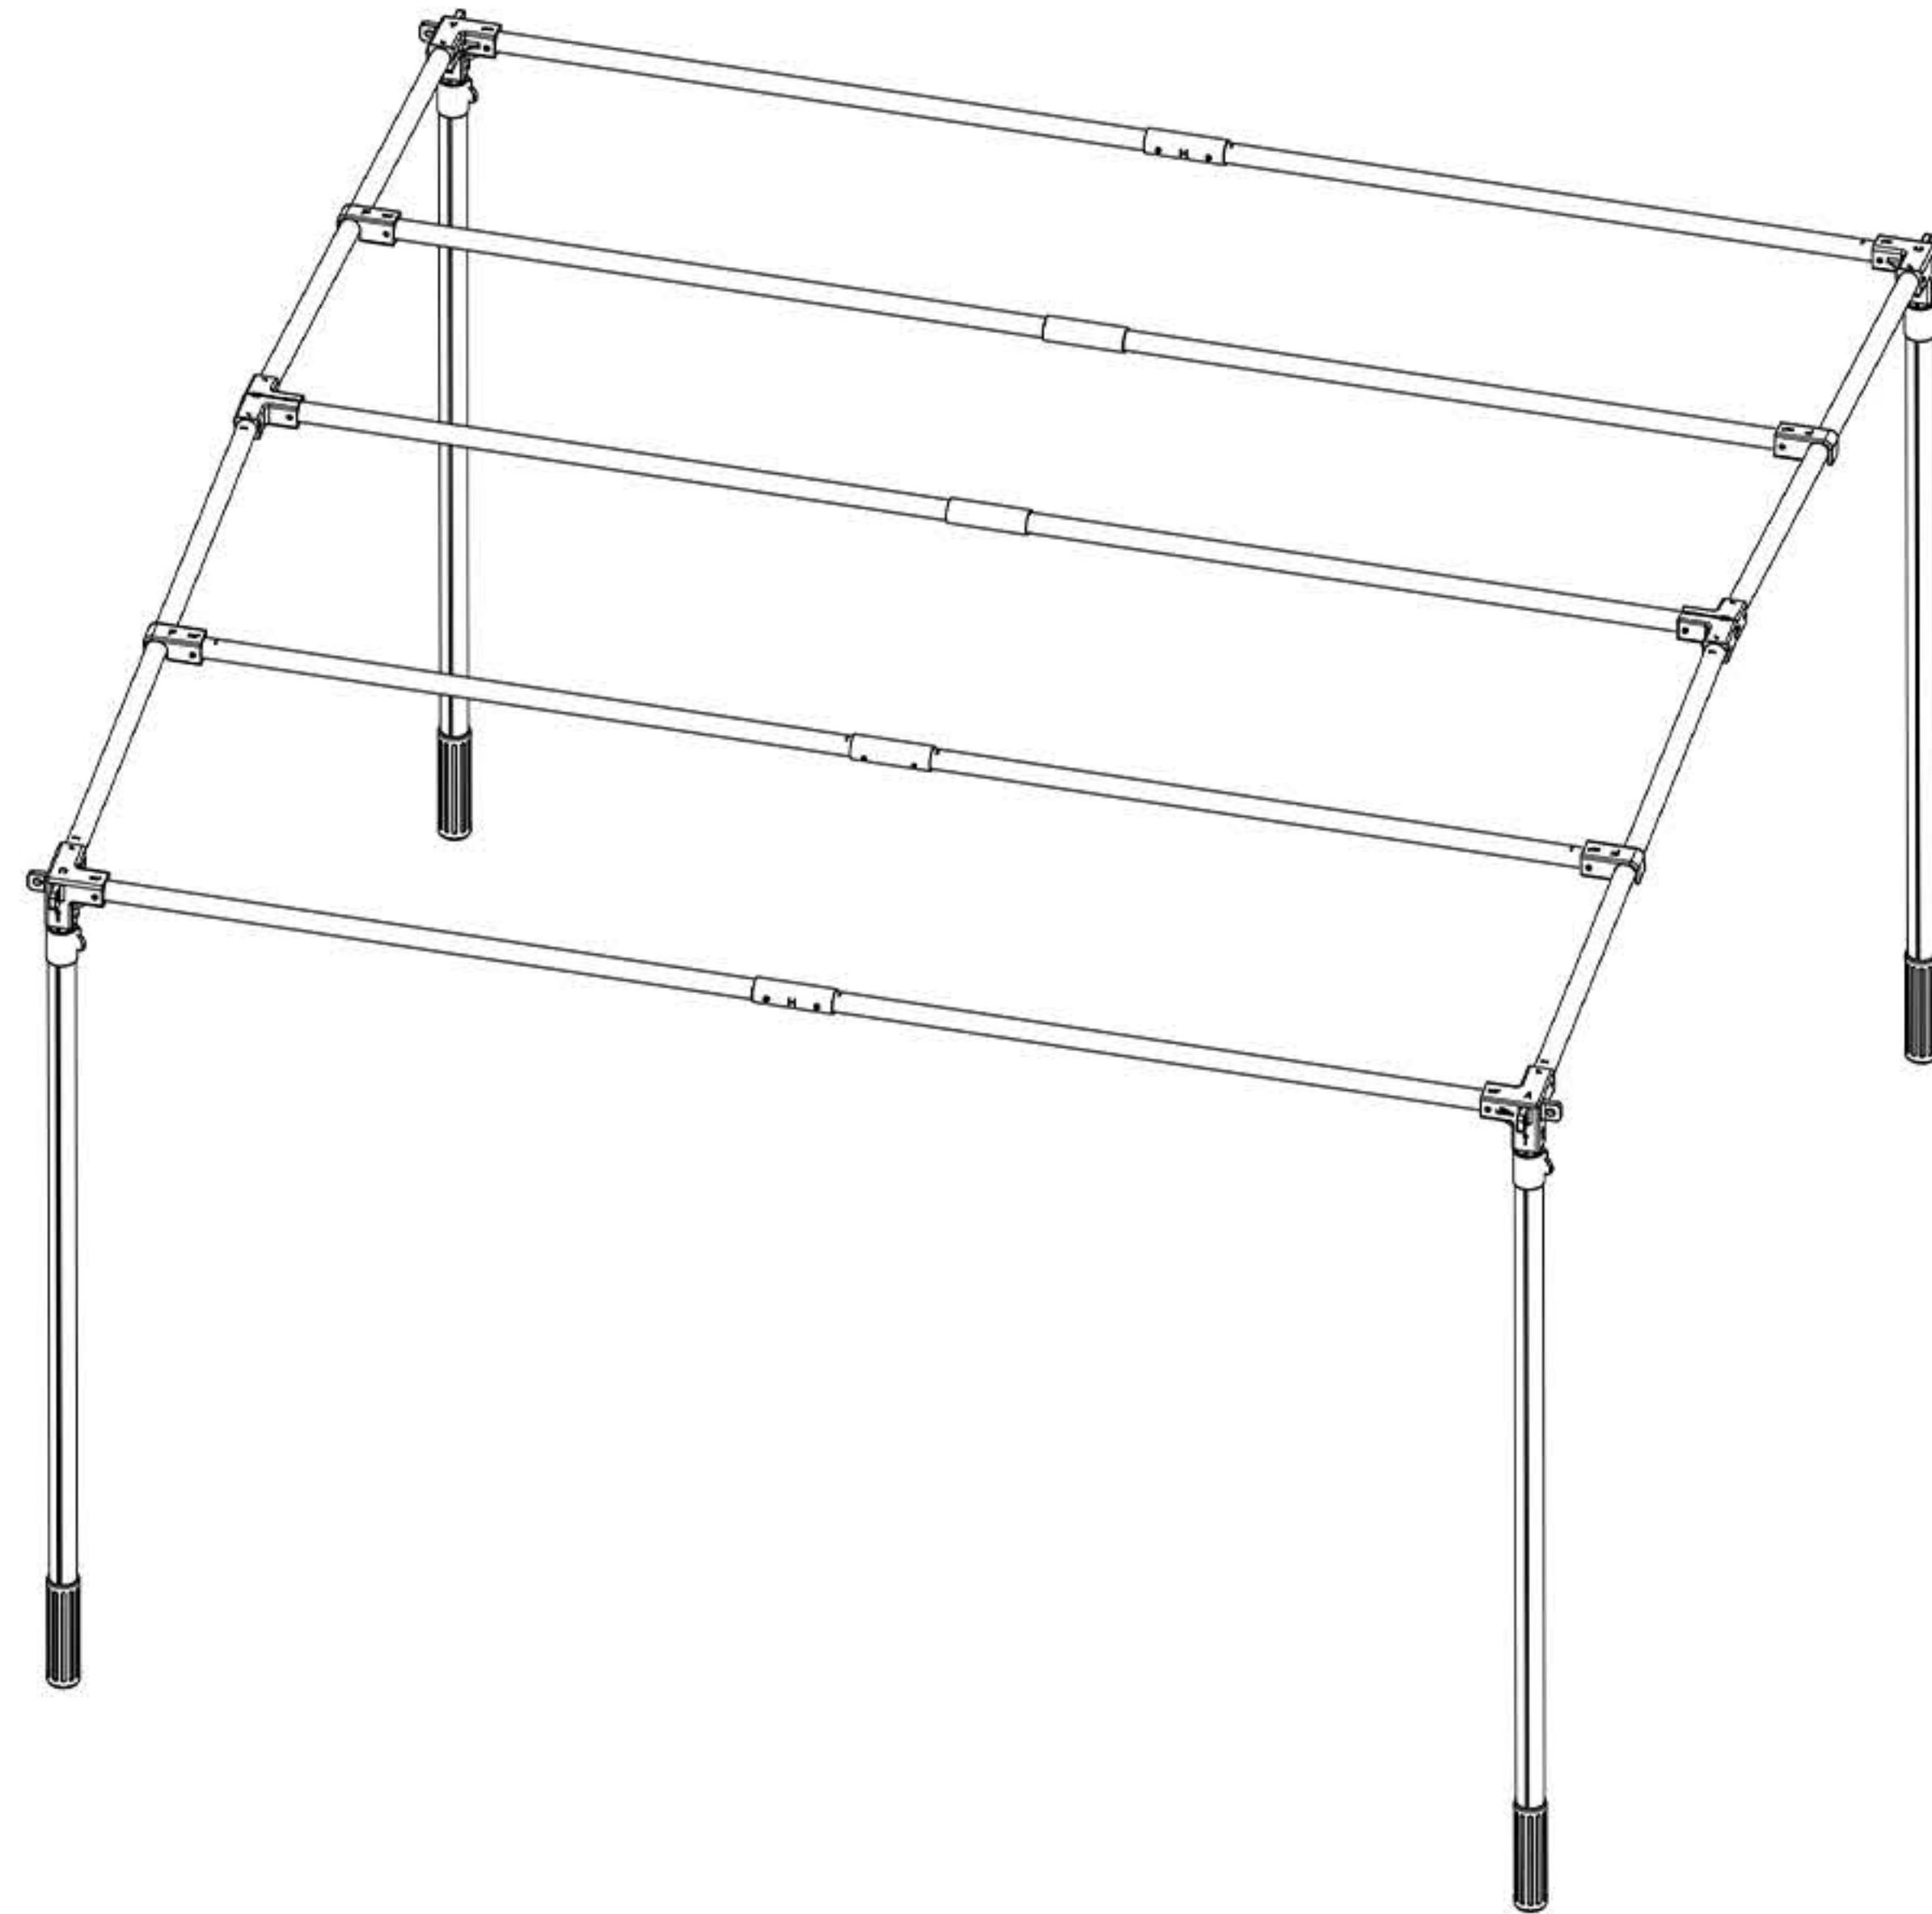

Figure 1- Rendering
- Figure 1 shows the completed assembly view.